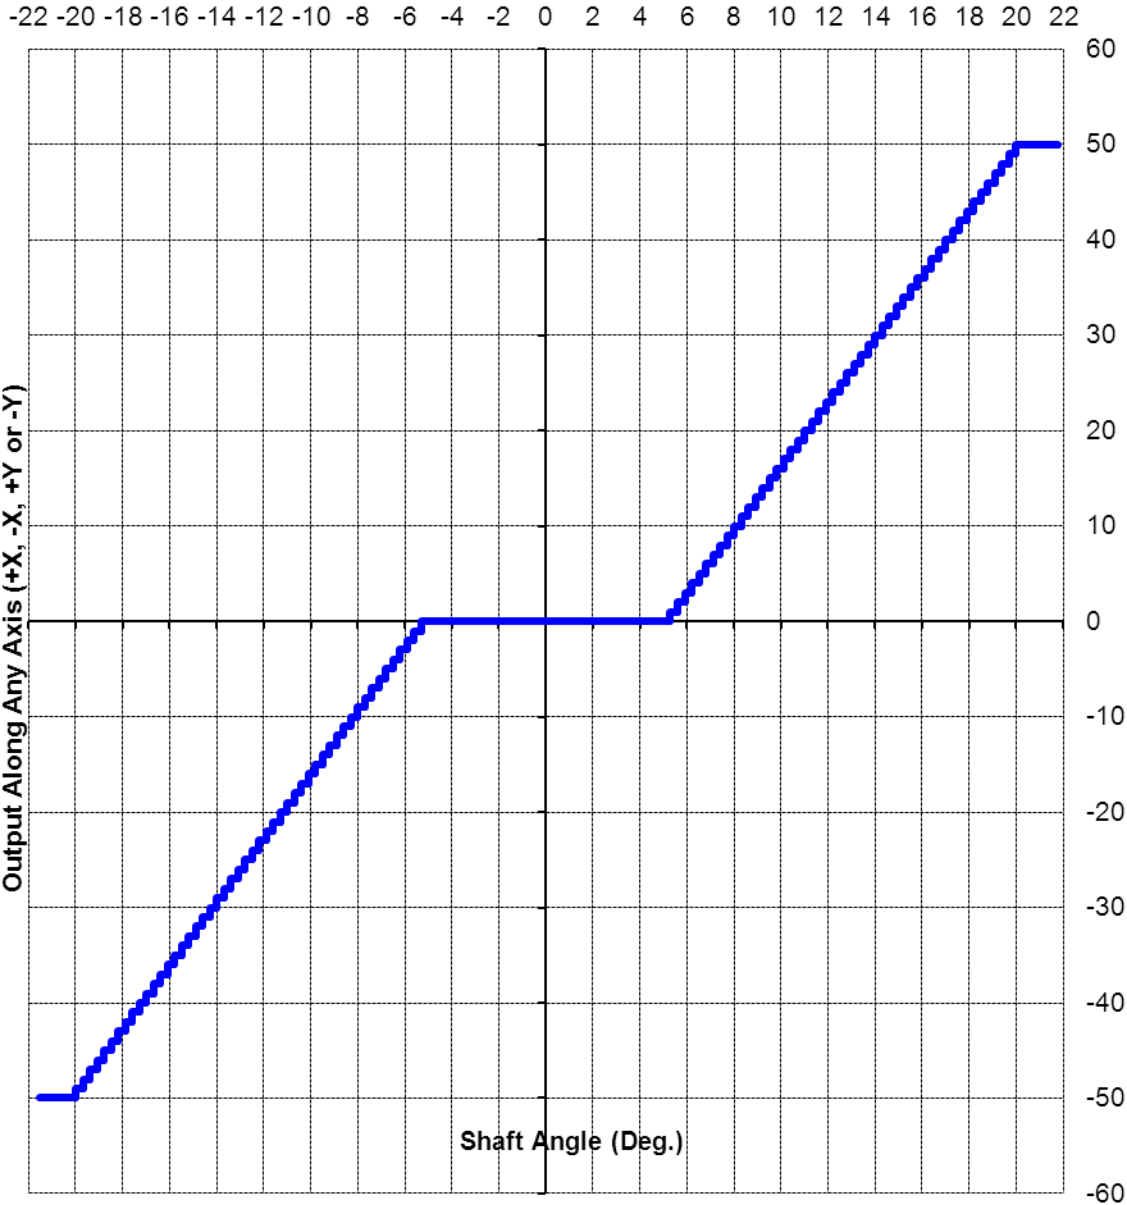

Figure 6 – Joystick Output Along X or Y Axis vs. Shaft Angle (Typical)
- 4.2 Low Power (Sleep) Mode:** When the joystick position is within a circle defined as the Sleep Zone for ten consecutive measurements the joystick goes to the Low Power mode where power consumption is significantly lower. The Sleep Zone typically extends to a joystick shaft angle of 5° from the center (See Figure 6). The last XY value output before entering the Low Power mode is (0,0). As long as the joystick remains within the Sleep Zone circle, it will remain in the Low Power Mode and INTn will stay in the float state. Low Power (Sleep Mode) current may be higher if supply voltage drops below 2.0V.